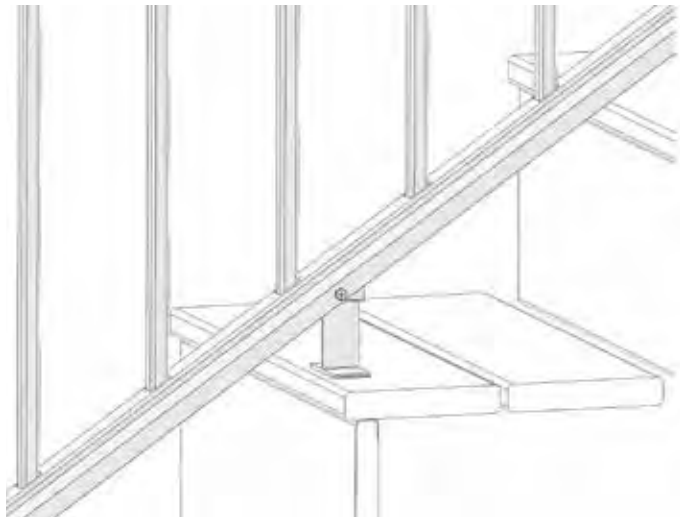

Figure 12
Fasten bottom rail crush block to the bottom rail with (1) #10 x 3/4-in screw (Figure 12).